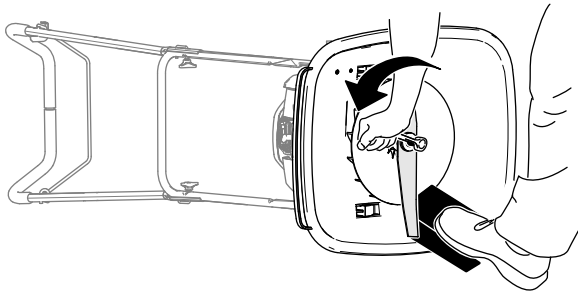

Figure 27
4. Use a block of wood to hold the blade steady (Figure 27).
5. Use the wrench provided with the machine to remove the blade by rotating the bolt counterclockwise (Figure 27).